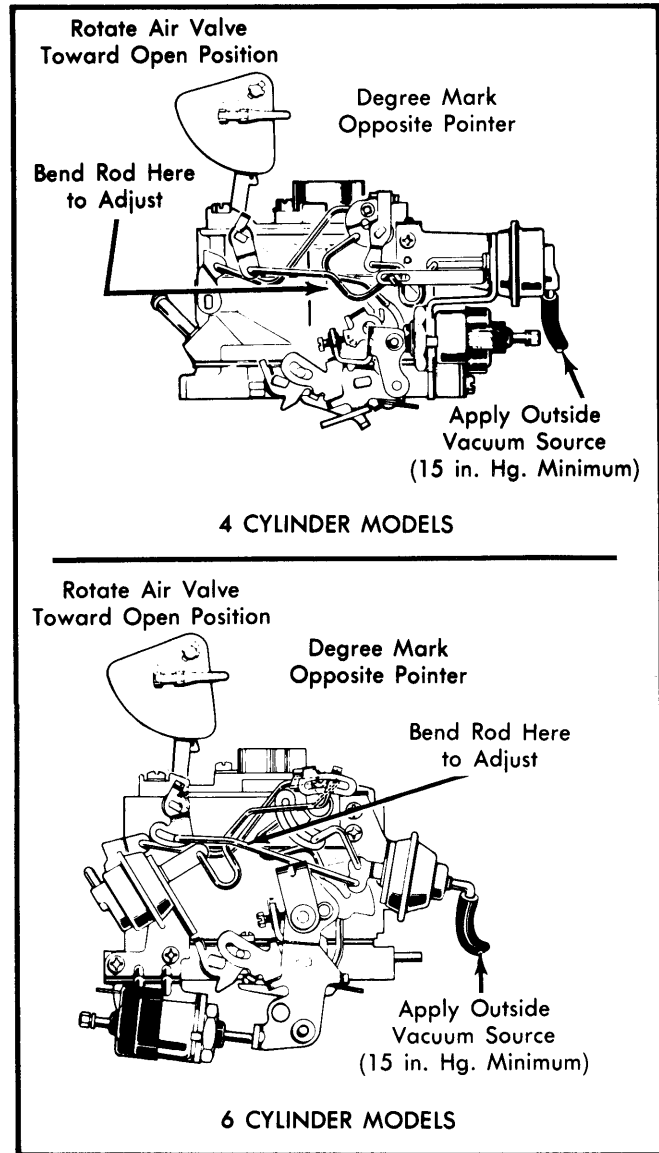

Fig. 6 Adjusting Air Valve Rod
- 1) Using an outside vacuum source of at least 15 in. Hg, seat primary choke vacuum break diaphragm. Close air valve, mount and adjust angle gauge. See Fig. 6.